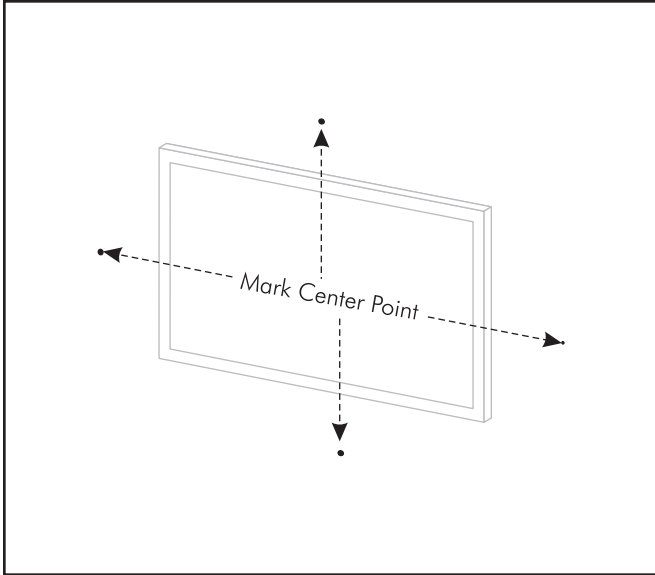

Figure 19. Mark the center points.
NOTE: Figures 19–24 illustrate the Vignette mounted in 4 different configurations.
- 3 Mark your wall with the center point for the wall bracket (see figure 19).